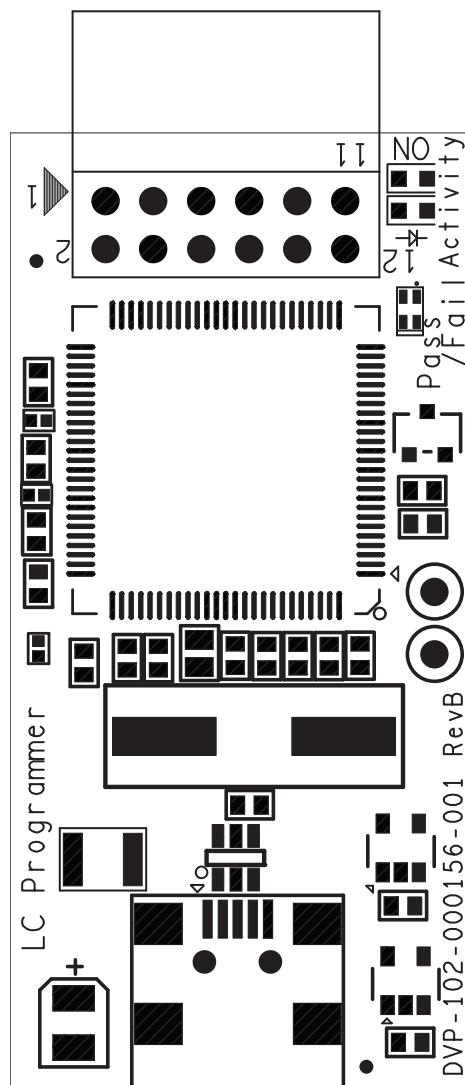

Figure 4-25 • Low-Cost Programming Stick – Top Silkscreen
1. Top signal layer (Figure 4-25)